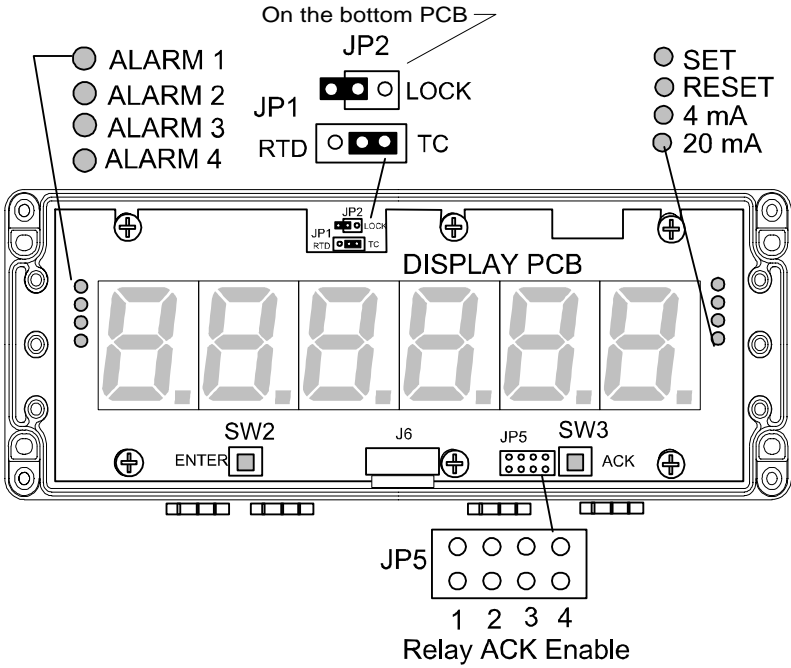

Figure 36. PD757 Jumper Arrays and Status LED Identification
6. Reassemble meter prior to applying power. Front cover may remain off until programming is complete to allow access to **ENTER** and **ACK** buttons as well as installation of lockout jumper (see Figure 36, page 64).